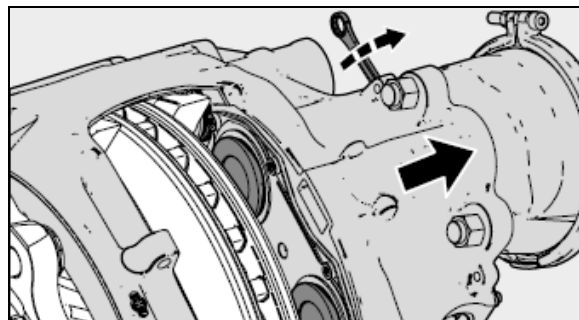

FIGURE 40: REWIND TAPPETS COMPLETELY AND PUSH CALIPER IN DIRECTION OF MIDDLE OF VIEW
4. Fully wind back the tappets (13) using a ring spanner and shear adapter (61) (see Figure 40).